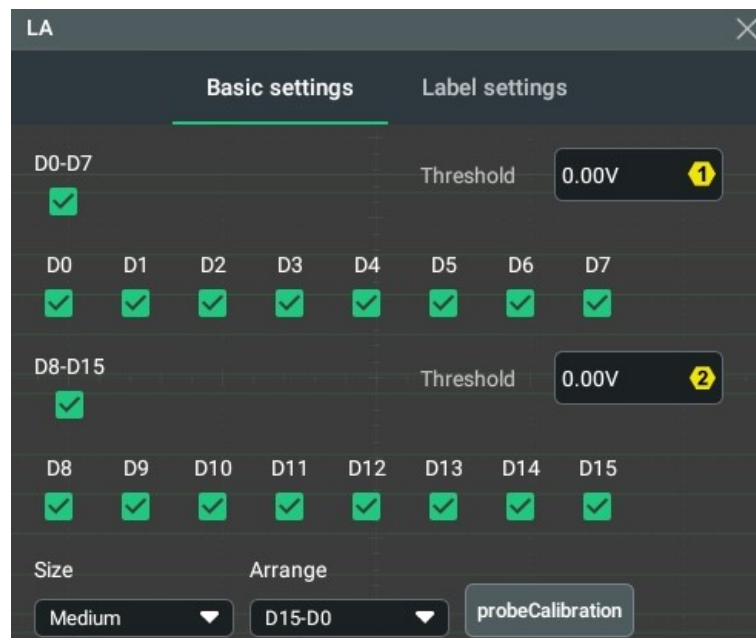

Figure 12.1 LA Menu
In the menu as shown in *Figure 12.1*, click or tap the check box of any digital channel from **D0** to **D15** to enable/disable the specified channel. You can click or tap the check box of **D0-D7** to enable/disable all channels from D0 to D7. Similarly, click or tap the check box of **D8-D15** to enable/disable all channels from D8 to D15. The check box turns into  once the corresponding channel is enabled while the check box of disabled channel is .
- In the menu as shown in *Figure 12.1*, click or tap the **Threshold** input field at the right side of **D0-D7**, and then use the pop-up numeric keypad to set the threshold for D0-D7. You can also use the corresponding multifunction knob to set the value.
- In the menu as shown in *Figure 12.1*, click or tap the **Threshold** input field at the right side of **D8-D15**, and then use the pop-up numeric keypad to set the threshold for D8-D15. You can also use the corresponding multifunction knob to set the value.
In the menu as shown in *Figure 12.1*, click or tap the **Size** drop-down button to select the waveform display size. Available options include "Small", "Medium", and "Large".
In the menu as shown in *Figure 12.1*, click or tap the **Arrange** drop-down button to select the waveform arrangement order for the currently enabled channels on the display.
In *Figure 12.1*, click or tap **ProbeCalibration** to enter the "ProbeCalibration" menu. Click or tap **Start** to start zero calibration automatically for the probe.